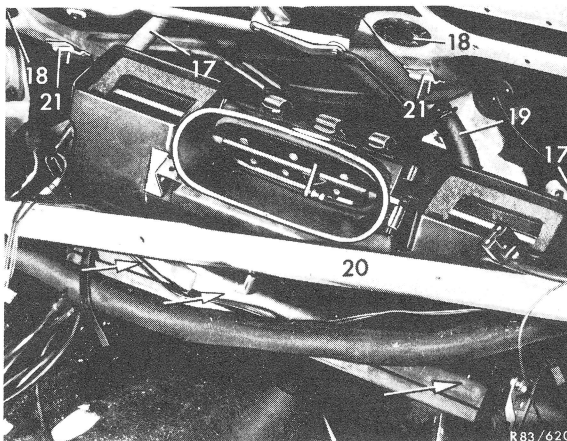

Fig. 6
- 21** Pull heater box back until the heater pipes (17) are disconnected from rubber sleeves (18) in front wall (Fig. 6).
- 22** Leave main cable harness hanging down and slide heater box toward the right. Make sure that the lower shoulder (arrows in Fig. 6) remains under cross member (20) and the heater box slides past the water drain hose (19).
- 23** Remove heater box at the right under cross member (20).
**25** Lubricate both rubber sleeves (18) in front wall with soap solution or the like (Fig. 6).
**26** Insert heater box under cross member (20) (Fig. 6) without center air duct (9) (Fig. 3) on side of passenger seat and place toward the left on tunnel.
**Note:** Make sure that during the insertion of the heater box toward the left the lower shoulder (arrows Fig. 6) remain under cross member (20).
**27** Guide both heater tubes (17) through rubber sleeves (18).
**28** Screw heater box to both holding brackets (21).